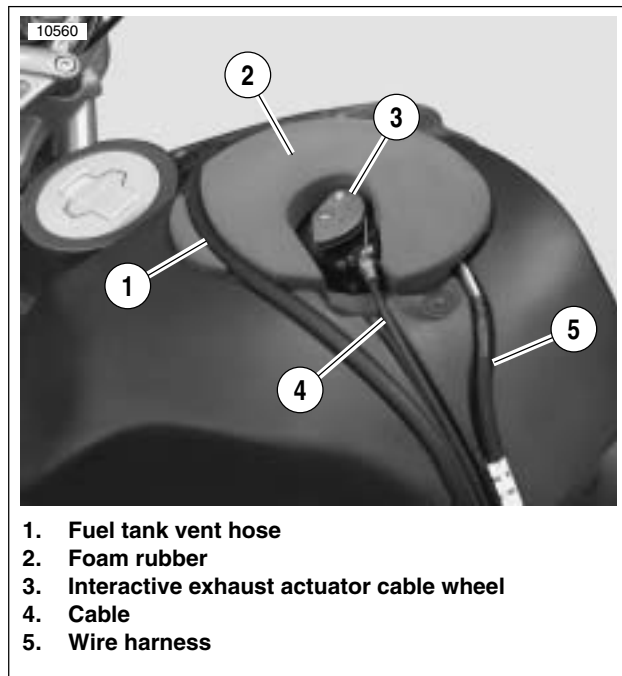

Figure 7-85. Interactive Exhaust Installation
2. See Figure 7-85. If installing actuator:
- a. Attach interactive exhaust cable (4) to cable wheel (3) on actuator.
- b. Install foam rubber isolator (2) and actuator and fuel tank vent hose (1).
- c. Adjust cable (4). See 1.17 INTERACTIVE EXHAUST CABLE\(XB12 MODELS ONLY\).